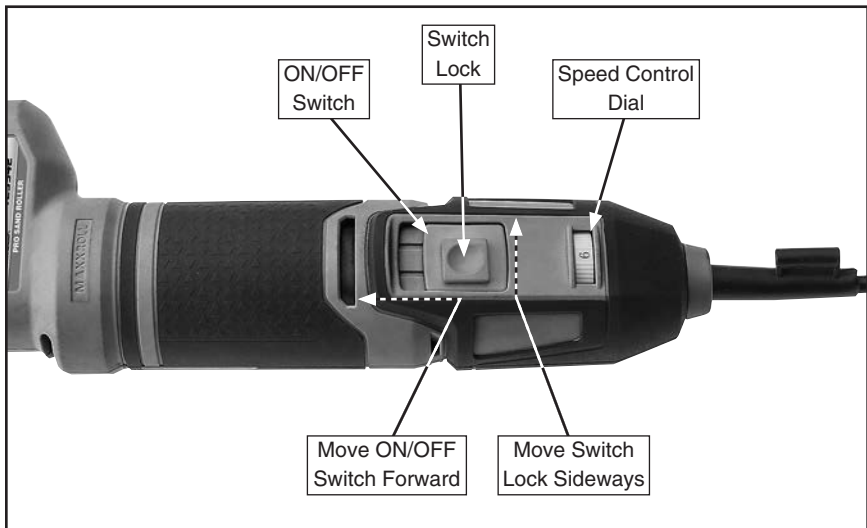

Figure 7. Tool controls.
2. Make sure ON/OFF switch (see **Figure 7**) is in OFF position, to prevent accidental startup, then connect tool to power.
3. Use speed control dial (see **Figure 7**) to select appropriate speed for operation. The dial is marked "1-6," which corresponds to the following speeds:
4. Use your thumb to move switch lock sideways to unlock ON/OFF switch, then push ON/OFF switch forward to turn tool **ON** (see **Figure 7**). Make sure your hand stays poised over switch in case you need to quickly turn tool **OFF**.